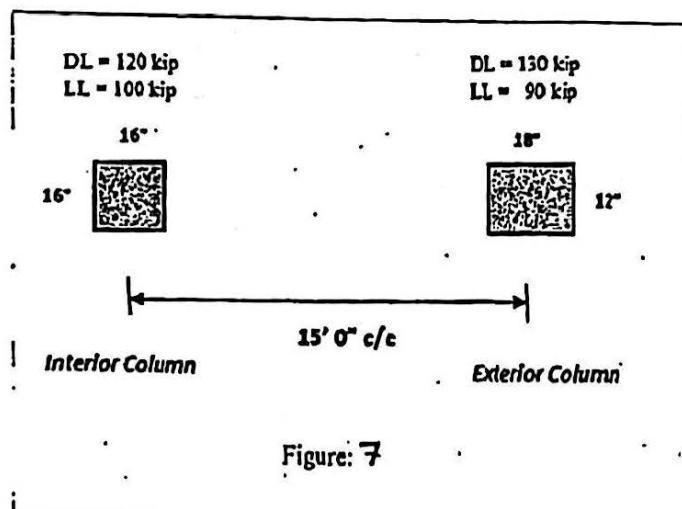

Figure: 7
6. (a) An exterior and interior column, as shown in Figure 7 with assigned loads, are to be supported by a combined rectangular footing whose outer end cannot protrude beyond the outer facing of the exterior column. The bottom of the footing is 5ft below the grade in a soil having an allowable bearing capacity of 6000 psf. A surcharge of 120 psf is specified on the surface. Design the footing with detailing of reinforcement in section with neat sketch. Given , Given: $f_c' = 4000$ psi and $f_y = 60000$ psi. (*There is no need to design the transverse beam*)